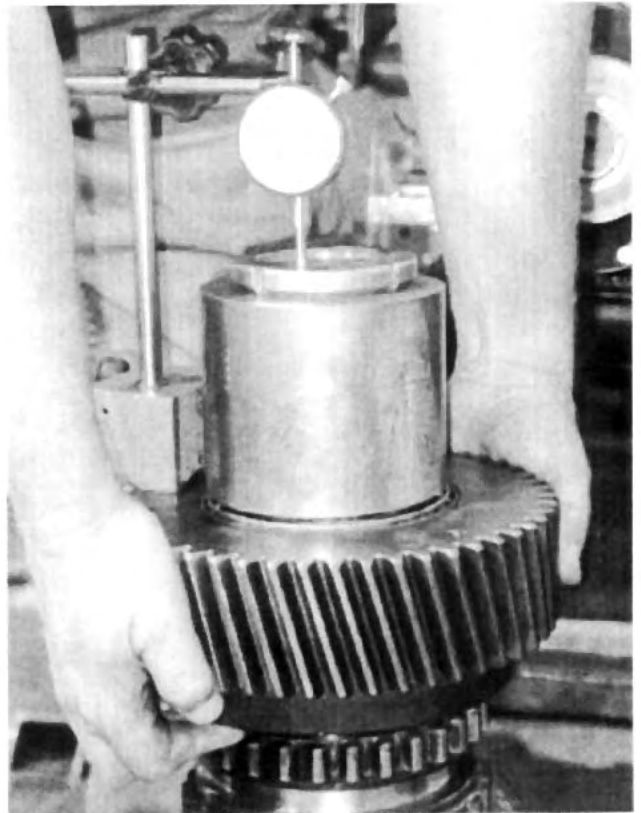

Fig. 36
2. To aid in proper reassembly, use special tool # 866 749 and note the end float of the direct drive gear assembly before disassembly. See Fig. 36.